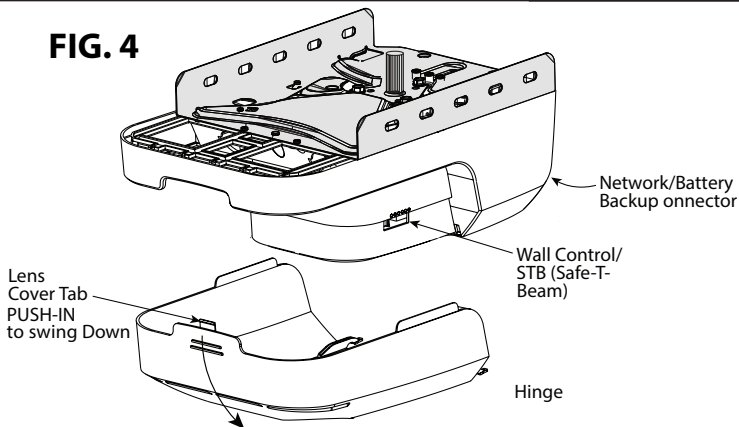

FIG. 5
6. Remove the 2-9/16" Nuts & Bolts from Door Arms to separate door from Opener. **FIG. 5.**